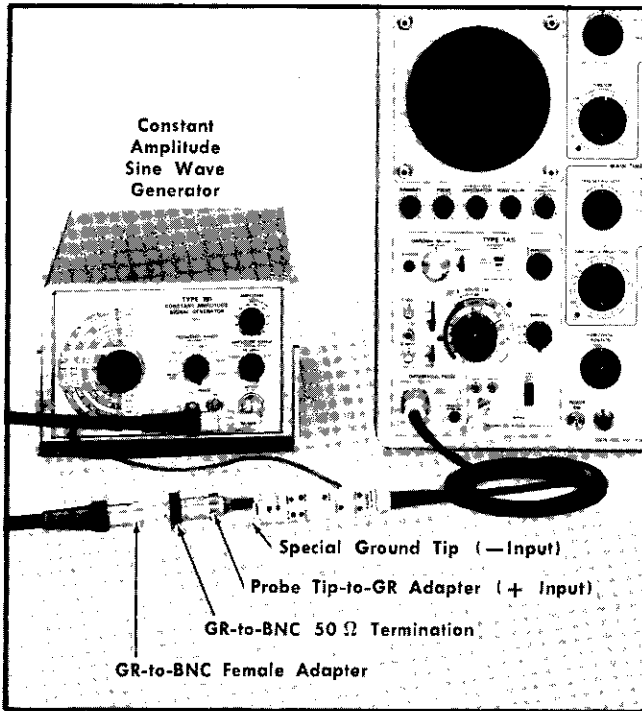

Fig. 6-16. Equipment setup for bandwidth check, step 9.
a. The preliminary control settings apply. The equipment setup is shown in Fig. 6-16.
(1) Connect the following equipment to the OUTPUT connector of the Type 191 Constant Amplitude Signal Generator (item 6) in the sequence given:
(2) Connect a ground lead from the Probe ground lug to the Constant Amplitude Signal Generator chassis. Connect the probe + Input tip to the adapter on the cable assembly. (A special ground tip should remain on the - Input tip.)